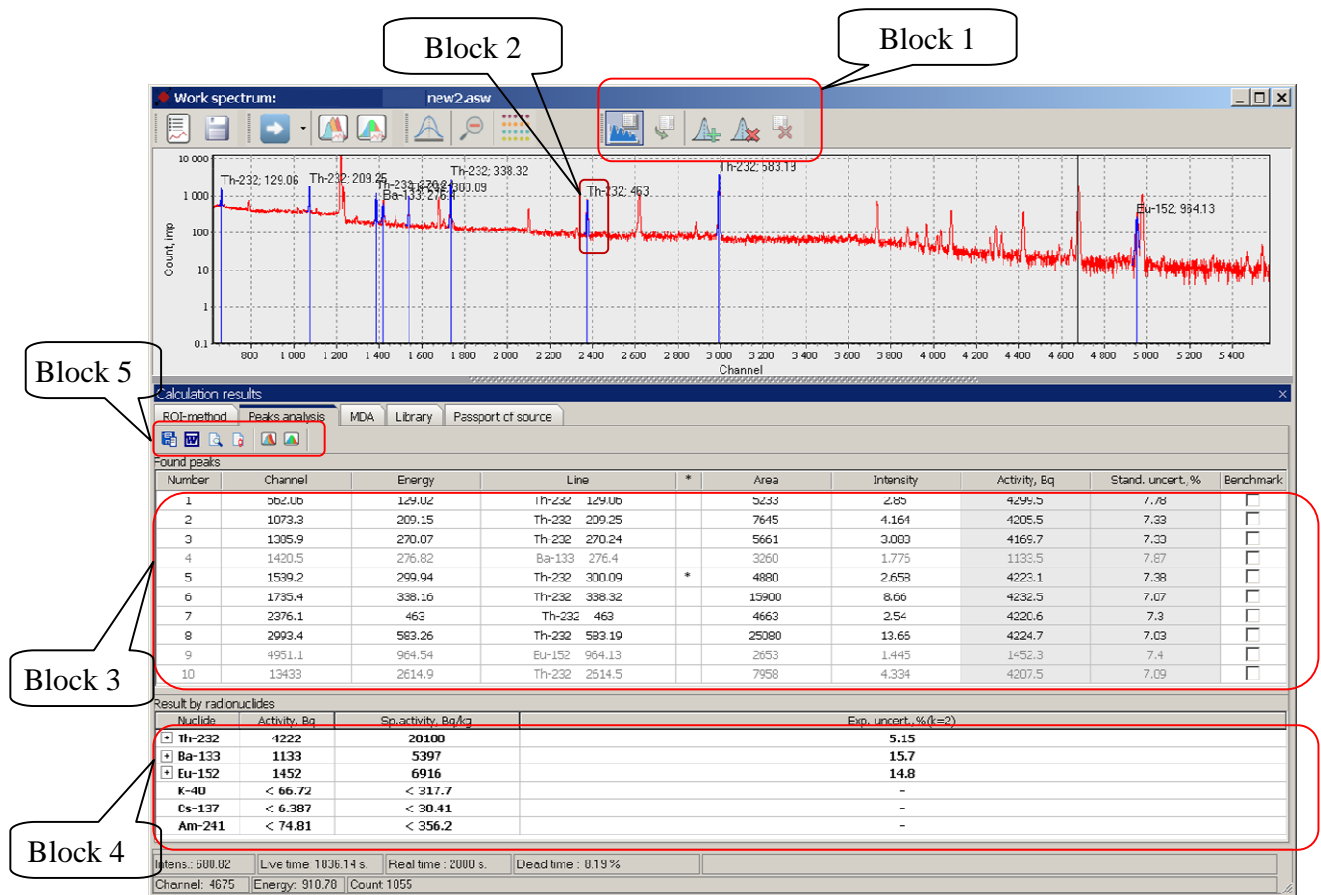

Figure 38. Spectrum window view after peak search
6.2.8 On the toolbar of the spectrum window (Fig.38, block 1), press  (**New search peak and calculation**). If the spectrum has correct calibration by energy, FWHM and shape of the spectrum, the **Peak analysis** tab of the measurement results panel will display information on any discovered peaks (Fig.38, block 3). Also, found highlighted peaks with titles will appear on the spectrum graph (see Fig.38, block 2).
The **Result by radionuclides** table contains the following fields (see Fig. 38, block 4):
The toolbar above the table of **Found Peaks** contains additional buttons   (see Fig.38, block 5). These buttons are intended for sending of data about found peaks to peak FWHM and shape calibration. It should be noted that even though the information about the FWHM and shape value is not available in the **Found Peaks** table, this information is stored in the program and may be sent to dialogue windows generating FWHM and shape calibrations.
New records in DB could be added directly from the spectrum window by the button , situated in the inserts **ROI-method** and **Peaks analysis**, placed in the window **Calculation results** (see Fig.30 and Fig.38, unit 5).